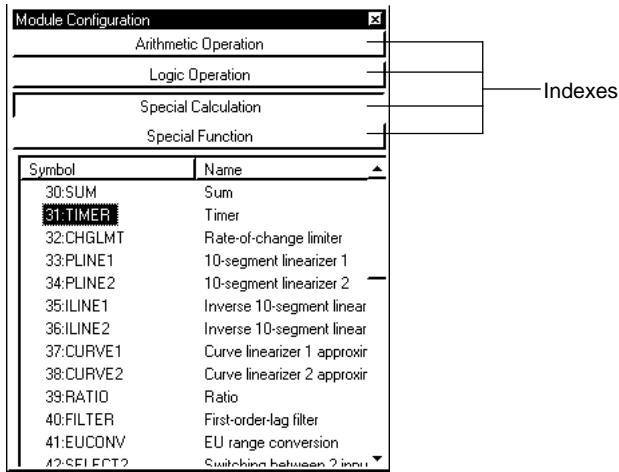

Figure 12.5.4 [Module Configuration] Dialog Box
- ≠ In the [Input Block] dialog box, double-click a blank box. The [Module Configuration] dialog box (Figure 12.5.4) appears.